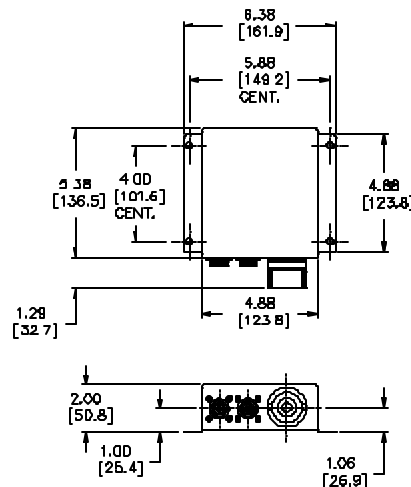

Figure 12: AC to DC Power Supply Outline Drawing
The AC-DC power supply is in a stainless steel enclosure which is remotely mounted. Capable of powering up to (2) Model 350/355 I.S. indicators in gas Groups C-G or IIB-IIA and (1) Model 350/355 I.S. indicator in gas Groups A-G or IIC-IIA. Refer to Figure 12 for mounting dimensions.